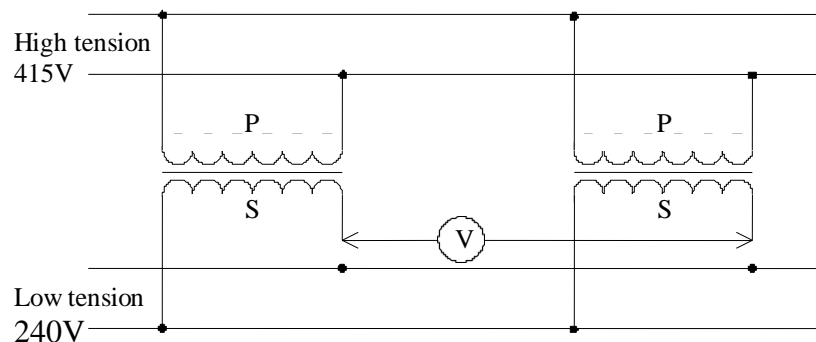

Figure 1
1. What would be the expected voltmeter readings in the circuit of figure 1, if the transformers were -